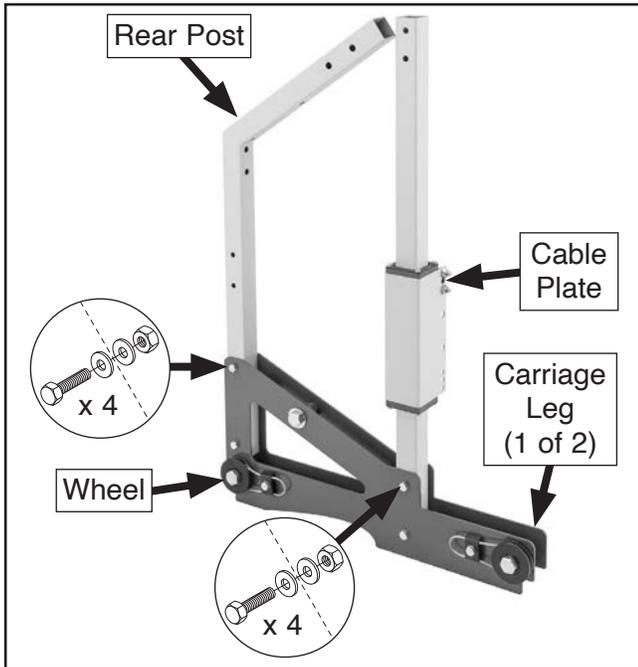

Figure 27. Front and rear post attached to carriage leg.
22. Attach front posts to carriage legs with (4) M10-1.5 x 80 hex bolts, (8) $\frac{3}{8}$ " flat washers, and (4) M10-1.5 hex nuts, as shown in **Figure 27**. Hand-tighten all fasteners until told otherwise later.
Note: Cable plates on post sleeves should face up and away from wheels of carriage legs (see **Figure 27**).
23. Attach rear posts to carriage legs with (4) M10-1.5 x 80 hex bolts, (8) $\frac{3}{8}$ " flat washers, and (4) M10-1.5 hex nuts, as shown in **Figure 27**.